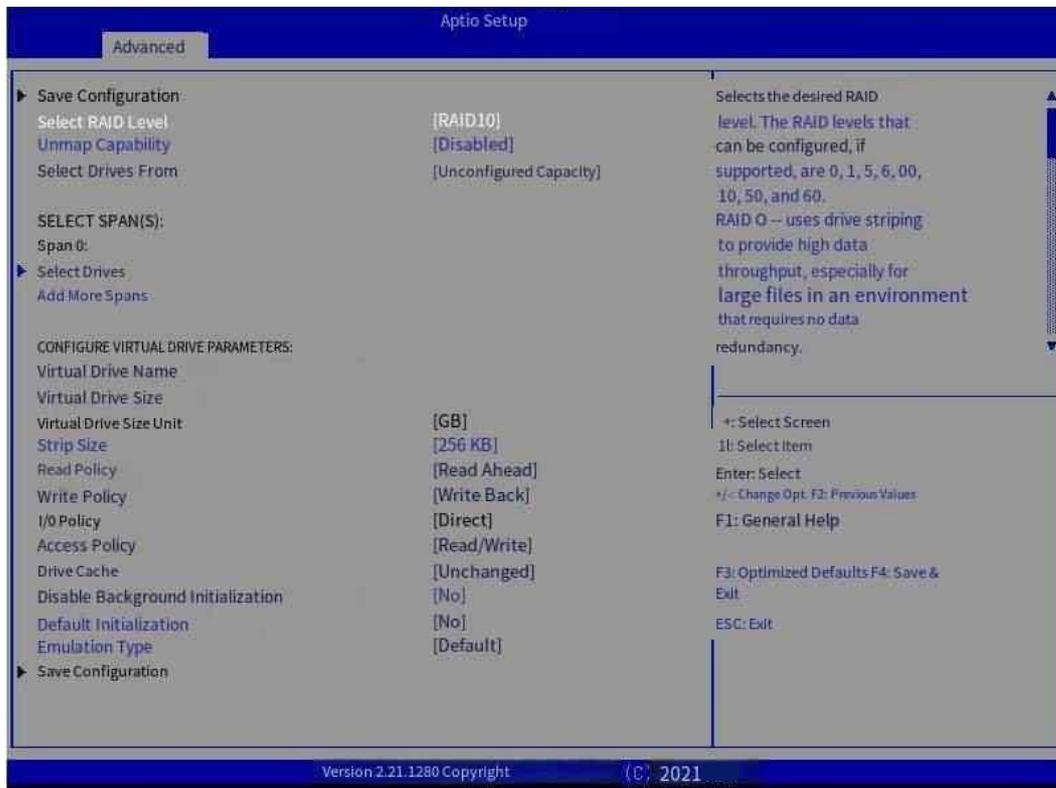

Figure 7-22 Select a RAID level screen
Step 2: Open the RAID configuration screen, Select a RAID Level, use ↑ and ↓ to select Select RAID Level and press Enter, select RAID 10 from the displayed list, and press Enter (Figure 7-22) :